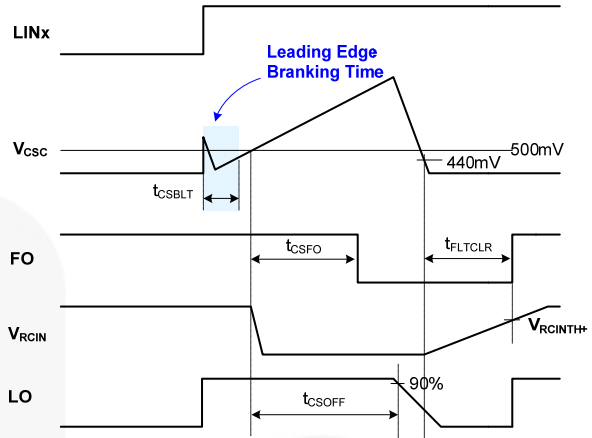

Figure 42. R_{CIN} and Fault-Clear Waveform Definition
Figure 42 shows the waveform definitions of R_{CIN} , \overline{FO} and the low-side driver, which uses a soft turn-off method when an under-voltage condition of the low-side gate driver supply voltage (V_{DD}) or the current-sense pin (CS) recognizes a fault. Once a fault condition occurs, the \overline{FO} pin is internally pulled to COM and all outputs (HO1,2,3 and LO1,2,3) of the gate driver are turned off. Low-side outputs decline linearly by the internal sink current source ($I_{SOFT}=40\text{ mA}$) for soft turn-off, as shown in Figure 42.